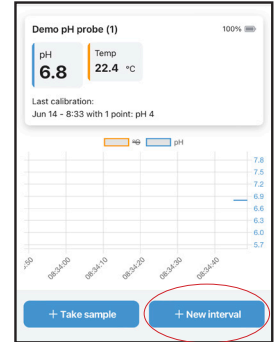

Figure 3
- Select **+ New Interval** to take a single measurement (Figure 3)